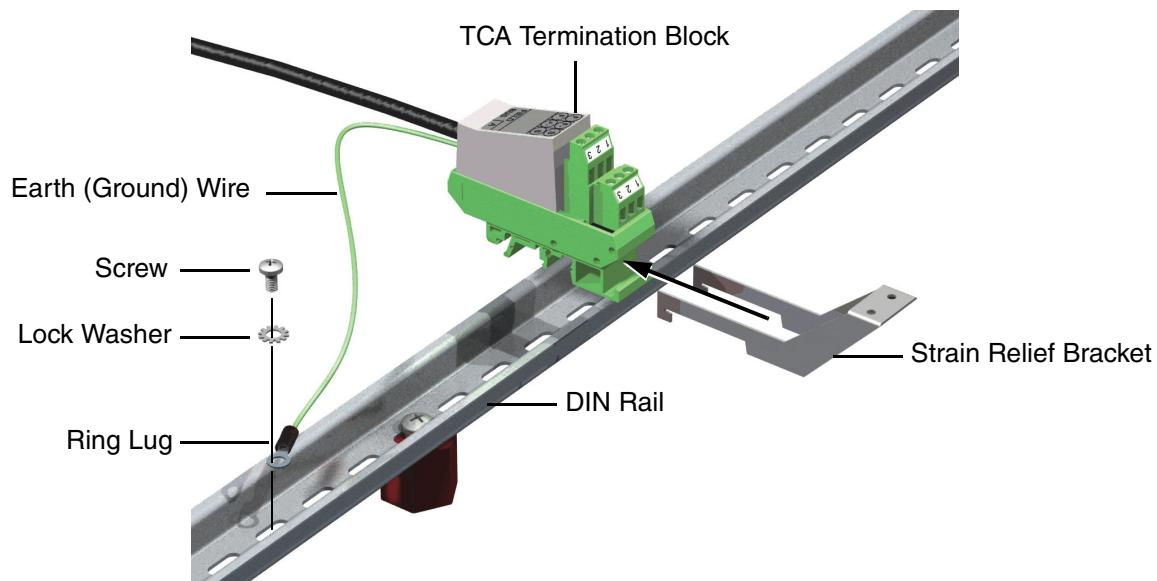

Figure 2-30. TCA Termination Block Assembly Mounting
1. Referring to Figure 2-30, assemble the termination blocks associated with the termination cable assemblies (P0903VY) for the FCP270 baseplate, snap them onto the mounting rails (DIN rails) in the enclosure, and connect the ground wires. (For future reference, Figure 2-31 illustrates how to remove the TCA termination blocks.)